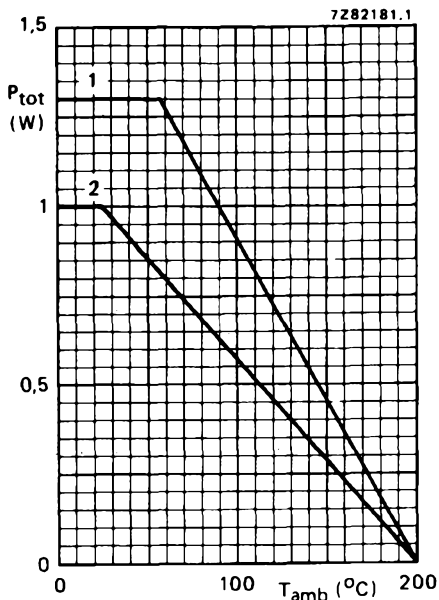

Fig. 2 Maximum permissible power dissipation versus ambient temperature.
**Mounting methods** (see Figs 2 and 3)
1. To tie-points (lead length = 4 mm in Fig. 2).
2. Mounted on a printed-circuit board (with lead length of 10 mm in Fig. 2) and print copper area of  $1\text{ cm}^2$  per lead.